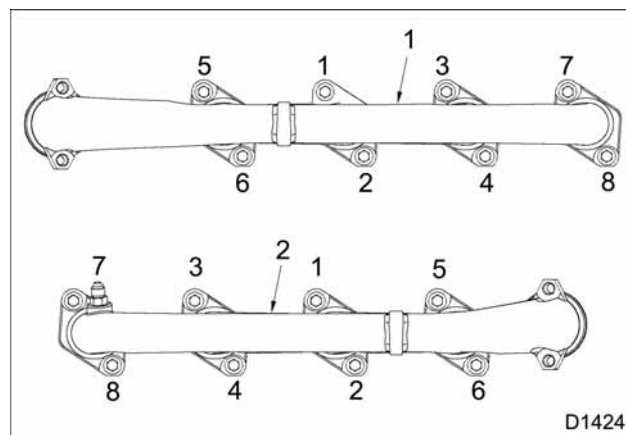

Figure 121 Torque sequence for exhaust manifold mounting bolts
4. Tighten bolts to the special torque (Table 8) and in the specified sequence (Figure 121).
4. Tighten bolts to specified torque (Table 8) and in the specified sequence (Figure 121).